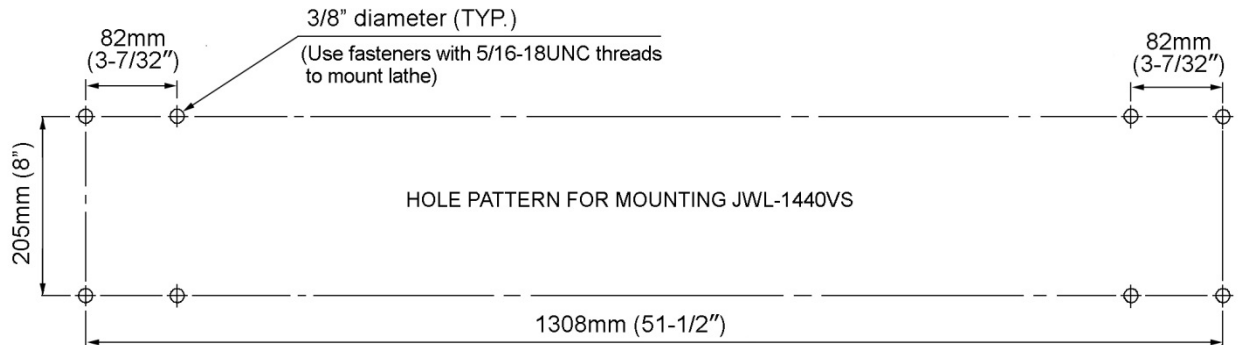

Figure 1
3. Refer to Figure 1 for mounting hole sizes and spacing in the lathe bed. The bed has four 5/16"-18UNC threaded holes. Use appropriate fasteners (bolts and washers) to secure lathe to bench or table from underneath.